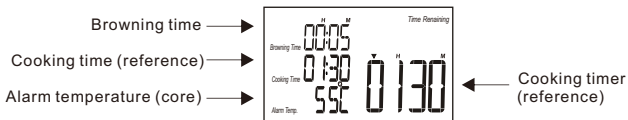

Fig.3 – Stand-by screen for low temperature cooking of RI 1
- Move to the stand-by screen for low temperature cooking (Fig.3).
- Start low temperature cooking: In the stand-by screen for low temperature cooking (Fig.3), press the START/STOP button.
temperature (in Fig.3, 55°C is the alarm temperature of RI 1). Note: The thermometer will keep alarming (5 seconds) and the backlight will keep flashing (5 seconds) every minute.
- Press ► to confirm, and the stand-by screen will be shown on the transmitter. Fig.3 is an example of "very rare beef".